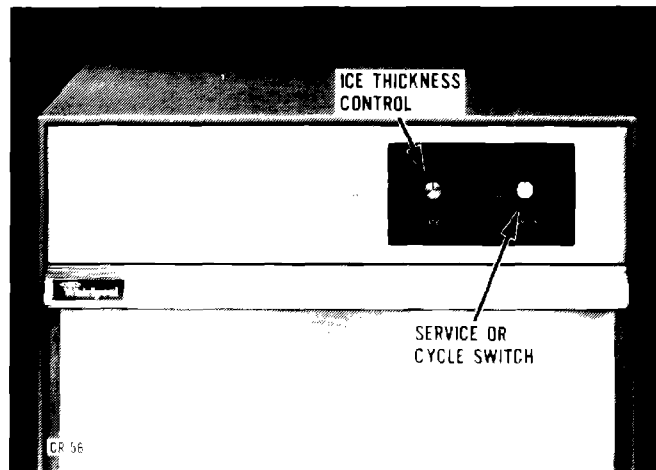

FIGURE 1 — SERVICE SWITCH
Your ice maker has been pre-set to produce ice approximately 13 mm (1/2") thick. The thickness can be increased or decreased by resetting the thickness control, Figure 1, however best performance will be obtained at the 13 mm (1/2") thickness.
1. Place service switch, **Figure 1**, in off position.